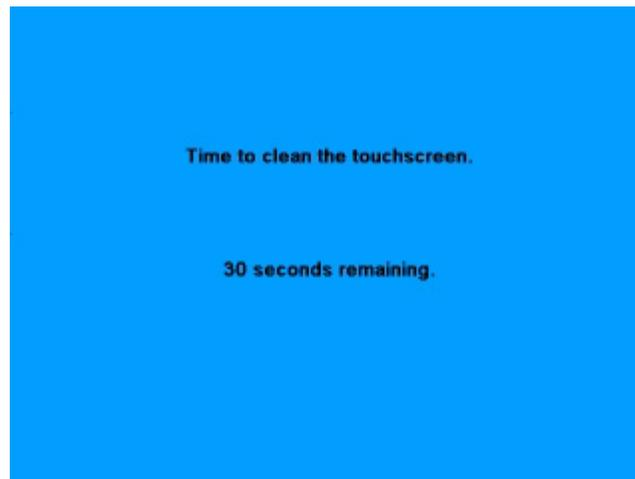

Figure 5-2. Touchscreen Cleaning Message
2. Press Touchscreen Cleaning to place the touchscreen in cleaning mode. The touchscreen is disabled and the touchscreen cleaning message opens (see Figure 5-2). The screen includes a countdown sequence, which shows the time remaining for cleaning the screen. During this time, the touchscreen will not respond to any user contact.